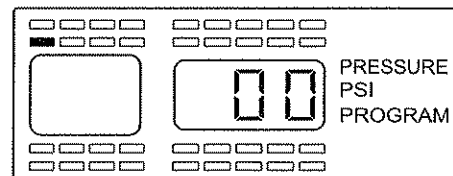

Figure 2-9
1. Using the same procedure as done previously, use the arrow buttons to select a wheel position and press the **SET** button for 3 seconds. This will cause the first dash or number to blink (see **Figure 2-9**) of a three-digit baseline pressure number that will need to be entered for the tire position selected.